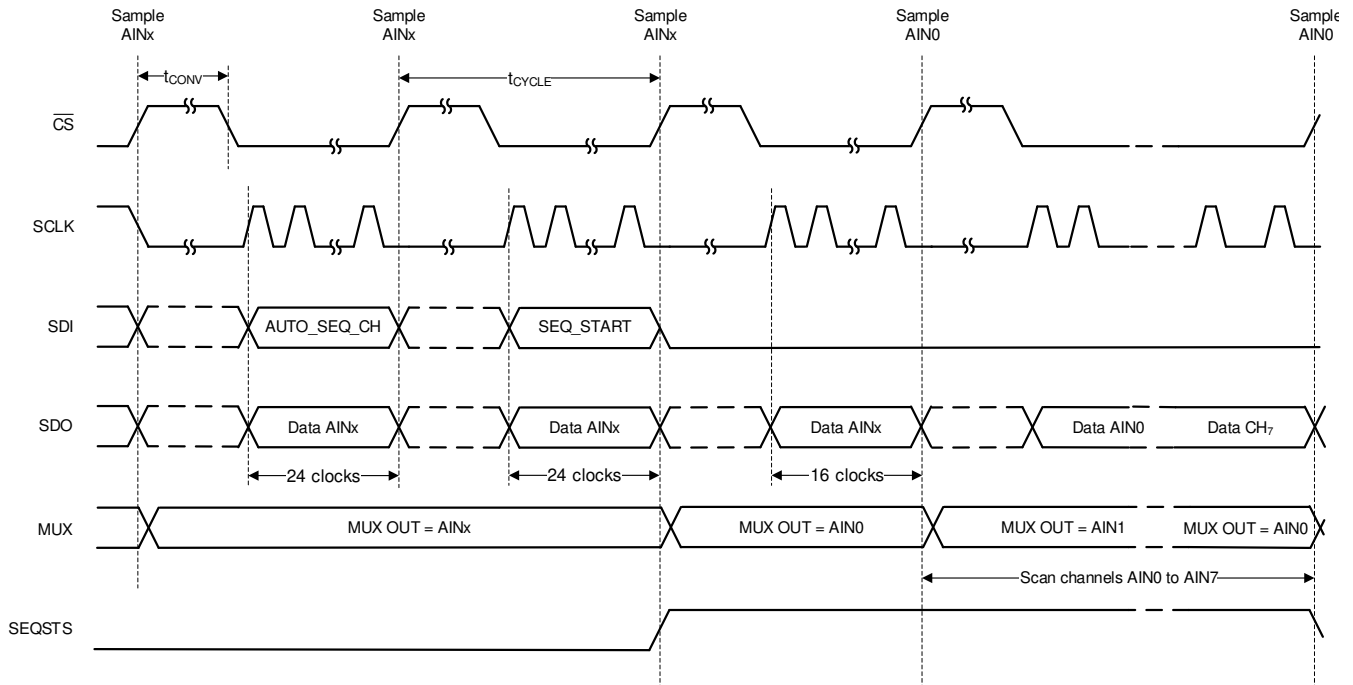
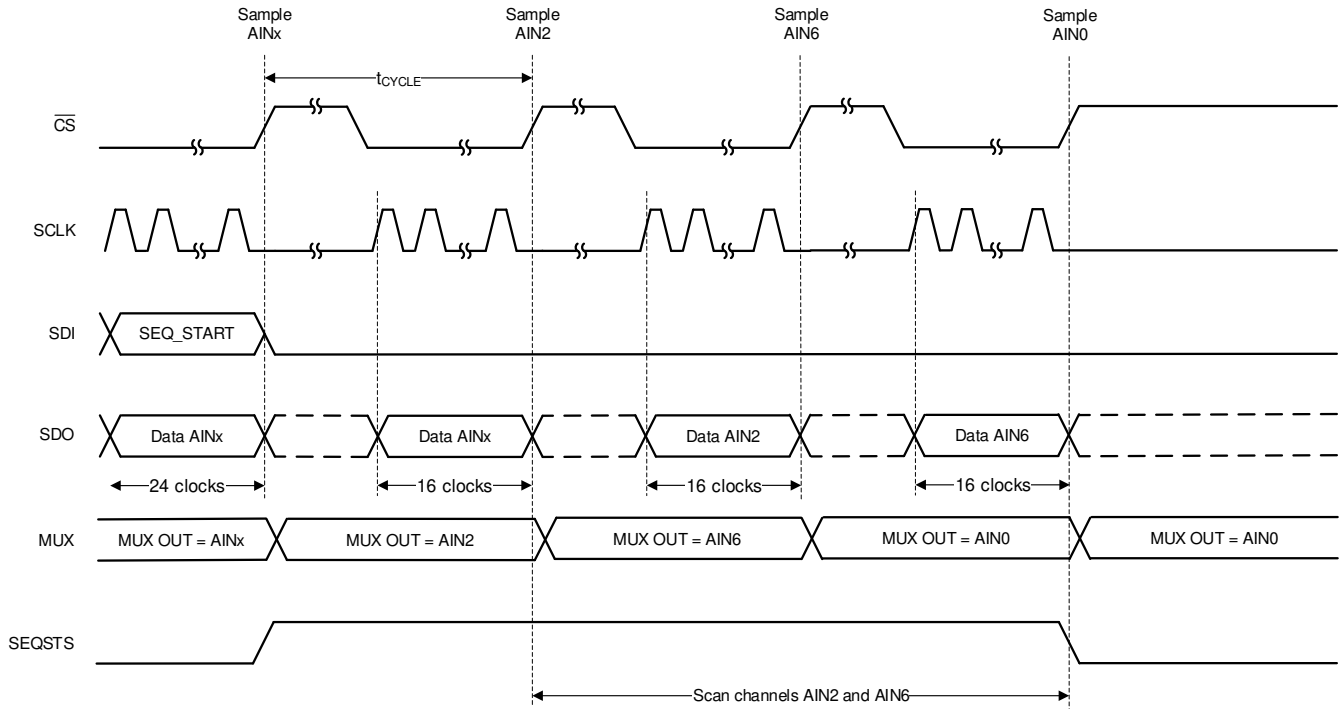

Figure 6-14. Starting a Sequence in Auto Sequence Mode
Figure 6-15. Example: Scanning Channels 2 and 6 in Auto Sequence Mode
In auto sequence mode, the internal channel sequencer selectively scans channels from AIN0 through AIN7 in ascending order. To select auto sequence mode, configure SEQ_MODE to 10b in the DEVICE_CFG register using a 3-byte register access. Enable one or more channels among AIN[7:0] by configuring the AUTO_SEQ_CFG1 register. By default all analog input channels are enabled. After enabling the desired channels, start the sequence by setting SEQ_START to 1b. The ADC auto-increments through the enabled channels after every \overline{CS} rising edge. Configure SEQSTS_CFG bit to 1b in SDO_CNTL4 register to indicate sequence status on SDO-1/SEQSTS pin. When SEQ_START is set to 1b, the SDO-1/SEQSTS pin is at logic 1 as shown in Figure 6-14 until the last channel conversion is complete. After the last enabled channel conversion is complete, channel AIN0 is selected and SDO-1/SEQSTS is in a high-impedance state.
As an example, Figure 6-15 depicts a timing diagram for when the device is scanning AIN2 and AIN6 in auto sequence mode. When AIN6 is converted, SDO-1/SEQSTS is Hi-Z and AIN0 is selected as the active channel. At the end of sequence, if more conversion frames are launched the device returns valid data corresponding to AIN0.
- Configure the AUTO_SEQ_CFG1 register. In Figure 6-15, AUTO_SEQ_CFG1 = 0x44.
- Configure the `AUTO_SEQ_CFG1` register. In Figure 6-15, `AUTO_SEQ_CFG1 = 0x44`.
After configuring the channel scanning order, start index, and stop index, initiate the scanning by setting the SEQ_START bit to 1b. The ADC scans through the enabled channels after every \overline{CS} rising edge as defined by the channel scanning order. When SEQ_START is set to 1b, the SDO-1/SEQSTS pin is pulled high until the last channel conversion frame is complete, as described in Figure 6-14. As illustrated in Figure 6-15, channel AIN0 is selected and SEQSTS/SDO-1 goes to Hi-Z after the last enabled channel conversion is complete.
As an example, Figure 6-15 provides a timing diagram for when the channel configuration is set as in Table 6-5. When AIN6 is converted, SEQSTS/SDO-1 goes to Hi-Z and AIN0 is selected as the active channel. If more conversion frames are launched at the end of the sequence, the device returns valid data corresponding to AIN0.
- Configure the CCS_START_INDEX and the CCS_END_INDEX registers. In Figure 6-15, CCS_START_INDEX = 0 and CCS_STOP_INDEX = 1.
- Configure the CCS_SEQ_LOOP register to 1 to indefinitely loop the sequence. In Figure 6-15, the CCS_SEQ_LOOP register = 0b.